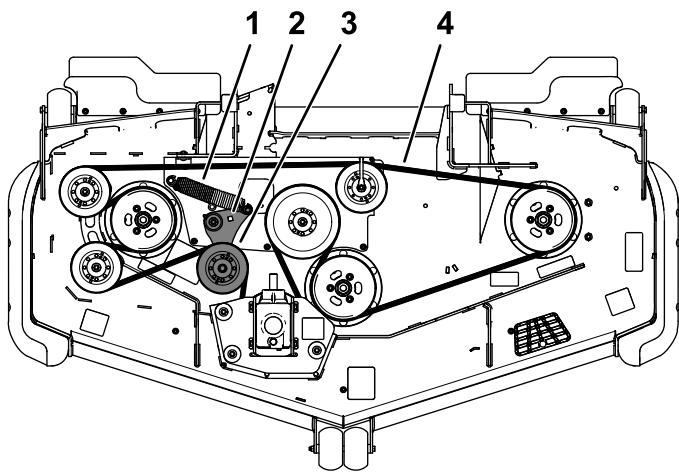
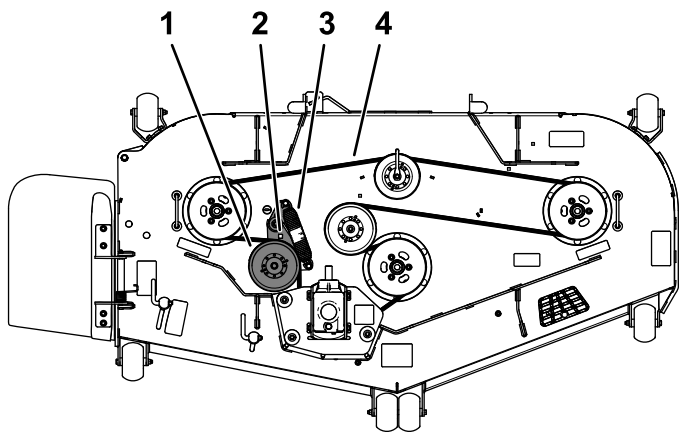

Figure 61
Figure 62
5. Use a ratchet in the square hole in the idler arm to remove tension on the idler spring (Figure 61 or Figure 62).
7. Install the new belt around the mower pulleys (Figure 61 or Figure 62).
8. Ensure that the spring ends are seated in the anchor grooves, and using the ratchet in the square hole, install the belt around the idler pulley (Figure 61 or Figure 62).